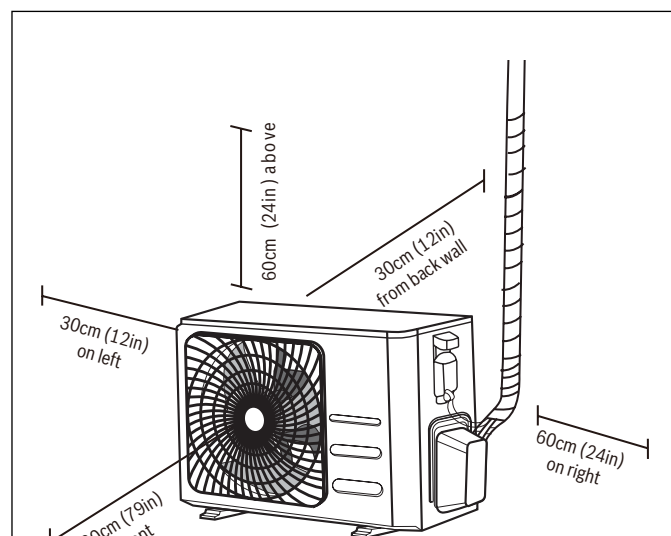

Figure 23
- Meets all spatial minimum requirements shown in Installation Space Requirements (Figure 23)